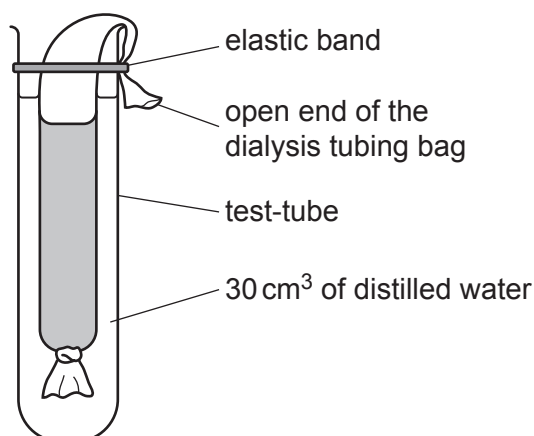

Fig. 1.3
- Step 9 Use the measuring cylinder to measure 30 cm³ of distilled water. Pour the distilled water into test-tube **S**, as shown in Fig. 1.3.